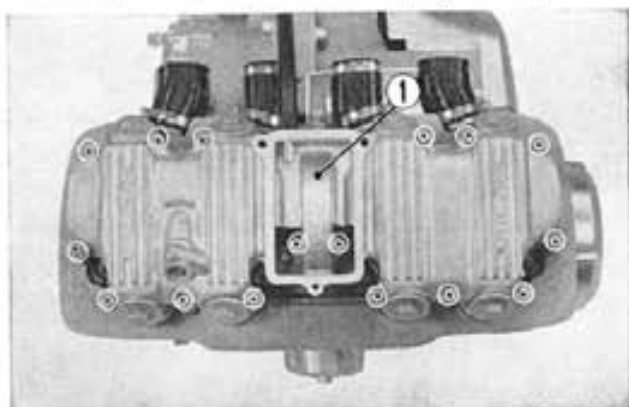

Fig. 3-22 ① Cylinder head cover
2. Loosen the 6 mm cross screws and remove the cylinder head cover. (Fig. 3-22)